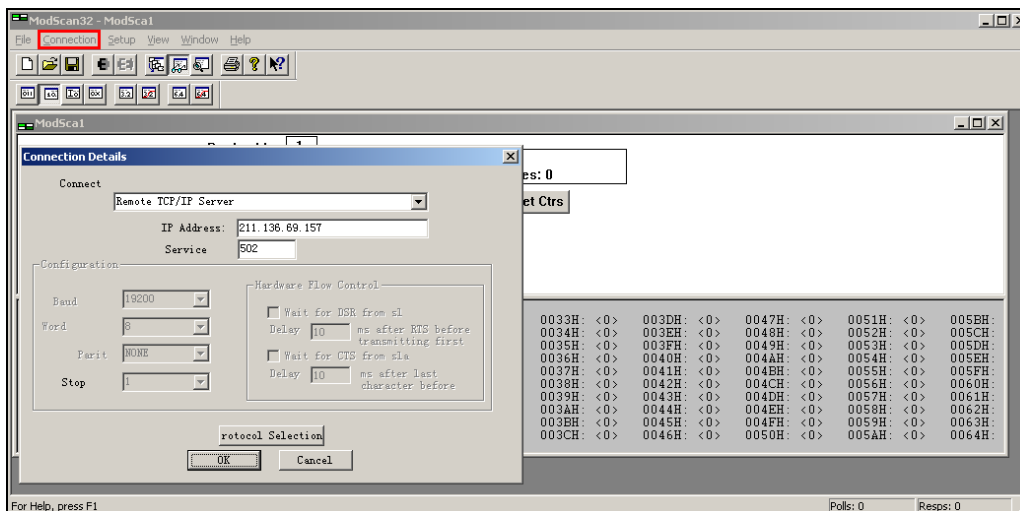

Figure 5-19 Modbus-Net-Bridge example 4
Step 4: Run the ModScan32.exe tool, choose **Connection > Connect**. In the pop-up dialog box, set **IP Address** to the **Local IP** of DTU and **Service** to 502, as shown in Figure 5-19.